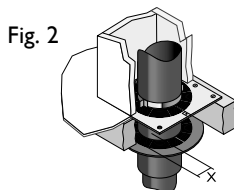

Fig. 2
1. Frame a four sided level square opening within the joists using timber stringers where necessary to allow for the correct distance to combustibles from the outer wall of the chimney and for 6 fixing points. This distance must be a minimum of 50mm on Gas and Oil applications and 60mm for solid fuel applications (see Fig. 2 below).
The ventilated fire stop plates are used in combination with standard ICID Plus pipes where the chimney passes through a combustible floor or ceiling. The outermost circle of ventilation slots gives a distance to combustibles of 60mm. This measures the required distance for solid fuel applications. For gas and oil applications a minimum of 50mm is required, which should be measured on site. The fire stop plate should be positioned around the chimney and fastened through the pre-cut plasterboard onto the timber frame with 4.5mm x 60mm long steel screws (see Fig. 2 above) using the location holes provided, ensuring the required safe distances for the application of either gas and oil, or solid fuel as above.